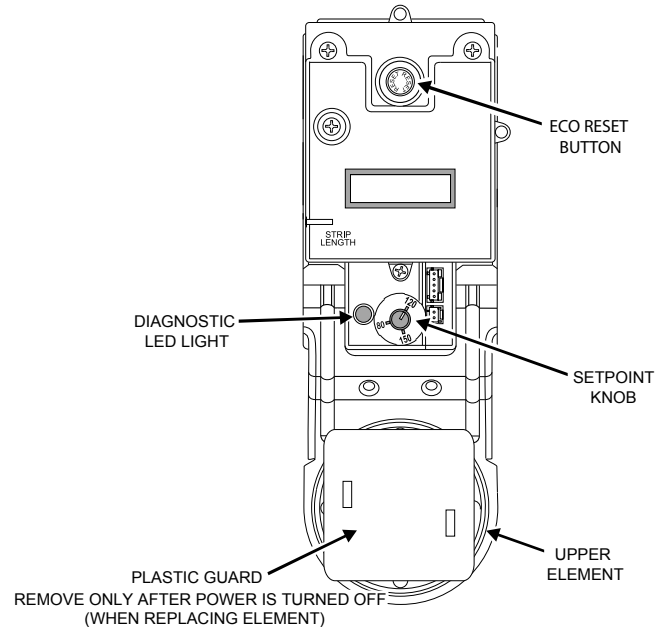
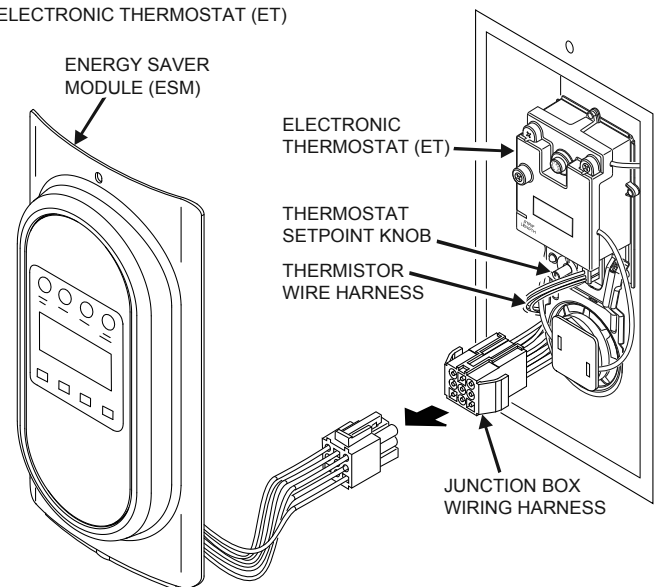

FIGURE 15
FIGURE 16
This water heater is designed to automatically shut-off in the event that the water temperature exceeds 180° F (82.2° C). A temperature limit switch, or ECO (Energy Cut Off), is used to shut off the power to the system if the water temperature exceeds 180° F or 82.2° C. The ECO can be reset by firmly pushing in the red reset button located on the electronic thermostat. (See Figure 15 on page 19.) If the ECO continues to shut-off the water heater contact a qualified service technician.
The Green/Red LED light indicates the status of the electronic thermostat (Figure 15).
If the Energy Saver Module (ESM) is not working, simply unplug the interface module and turn the set point knob on the Electronic Thermostat (ET) to the desired temperature (See Figure 15 and Figure 16). To replace a broken or damaged ESM module, see page 32 for ordering information.